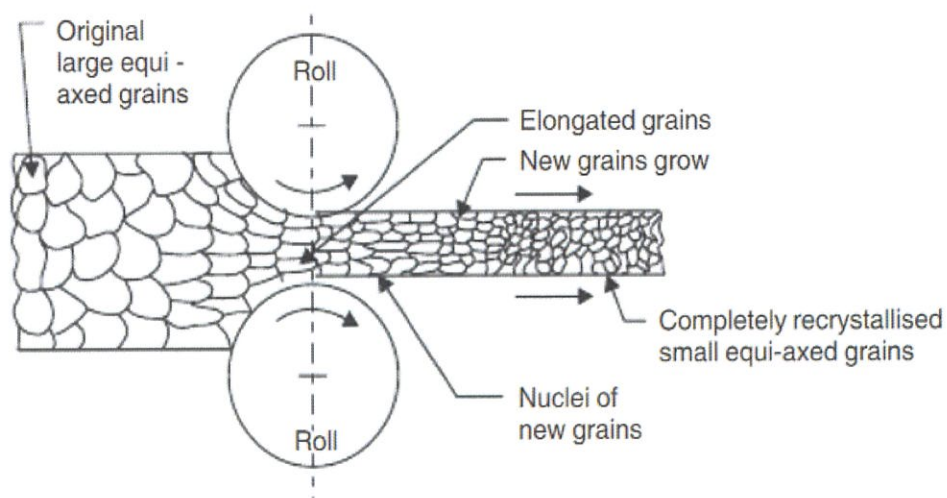

Figure 3(b)/ Rajah 3(b)
- CLO1 (b) Metal fabrication is a manufacturing process that produces products by cutting, shaping, bending, and assembling metal into the desired forms. Figure 3(b) shows one type of metal fabrication process.
- i. Elaborate the working principle of the fabrication process illustrated in Figure 3(b).
- ii. Explain **TWO (2)** advantages and **TWO (2)** limitations of the fabrication process shown in Figure 3(b).
*Terangkan **DUA (2)** kelebihan dan **DUA (2)** keterbatasan proses fabrikasi yang ditunjukkan dalam Rajah 3(b).*